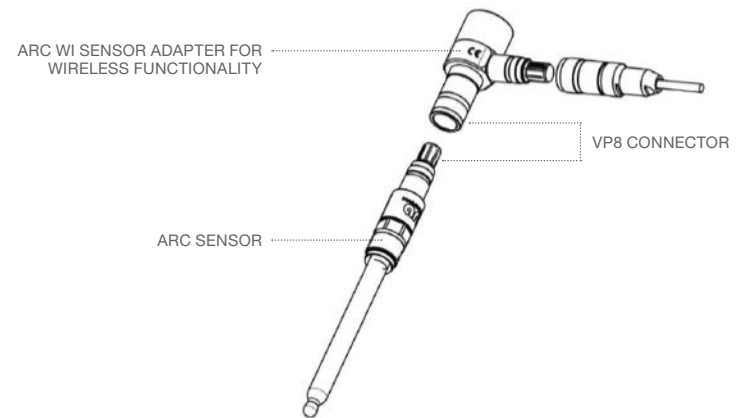

Figure 26: Mounting an Arc Sensor.
- Mount the Arc Wi Sensor Adapter between the Arc sensor and the Arc Cable VP 8 (Figure 26).